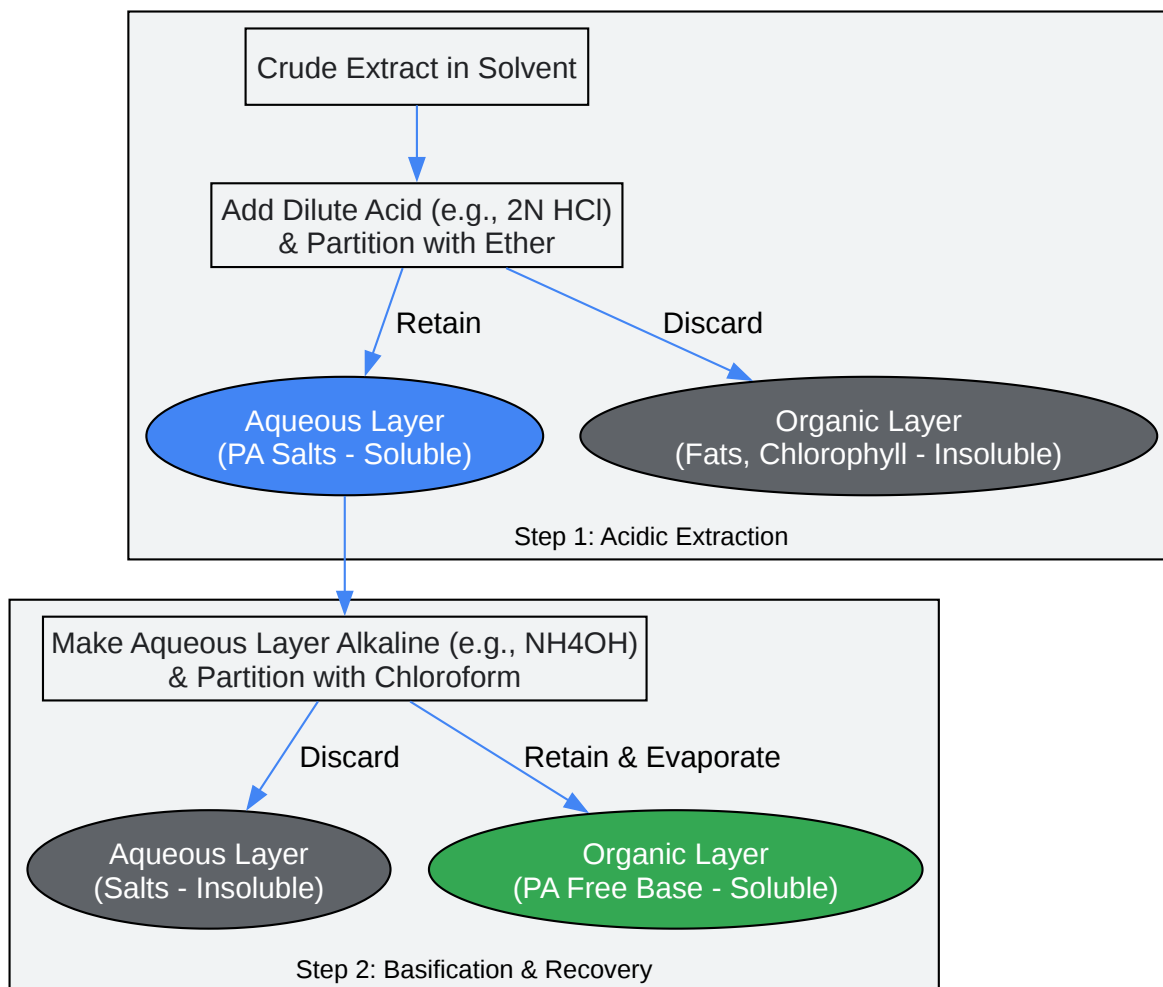

Figure 2: Acid-Base Liquid-Liquid Extraction Logic
Caption: Figure 2: Acid-Base Liquid-Liquid Extraction Logic.
- The crude extract can then be further purified using the acid-base partitioning described in Figure 2 or the SPE cleanup in Protocol 1.